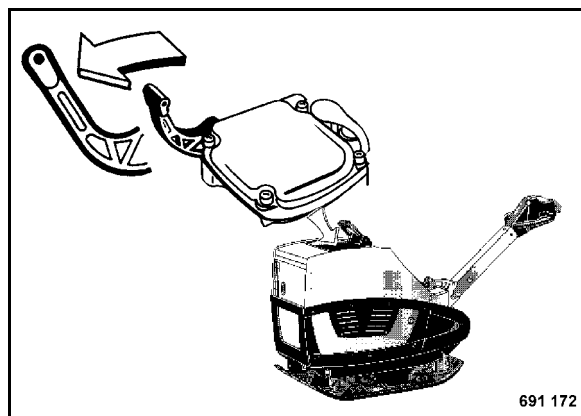

Fig. 22
- Pull the decompression lever (Fig. 22) in direction of arrow to the end stop. The compression lever clicks noticeably into place.